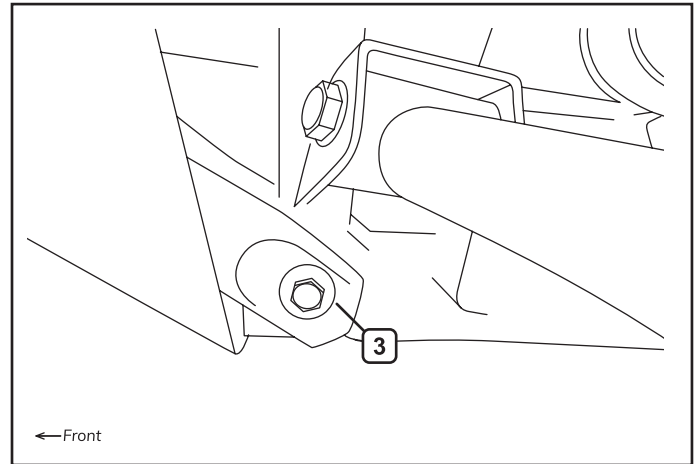

Figure 2.
2. Remove the two lower bumper bolts (3), as shown in figure 2.